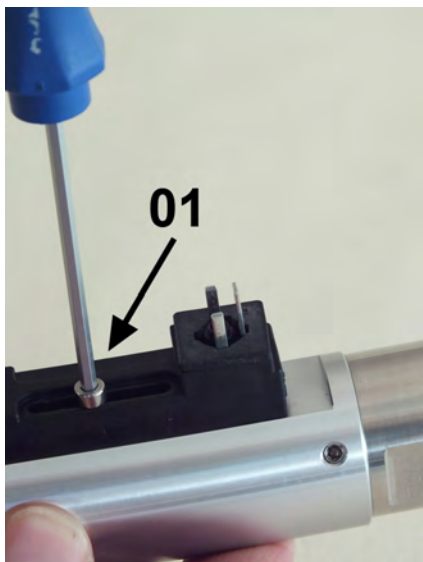

Fig. 55: Loosen set screw
3. ➤ Using a hex screwdriver (Fig. 55/01) remove the set screw of the switch contact
7. ➤ Insert set screw (Fig. 55/01) and tighten it slightly so that the switch contact can still move easily
9. ➤ Retighten the set screw (Fig. 55/01) observing the proper tightening torque (↗ Chapter 11.1 "Tightening torque" on page 75).